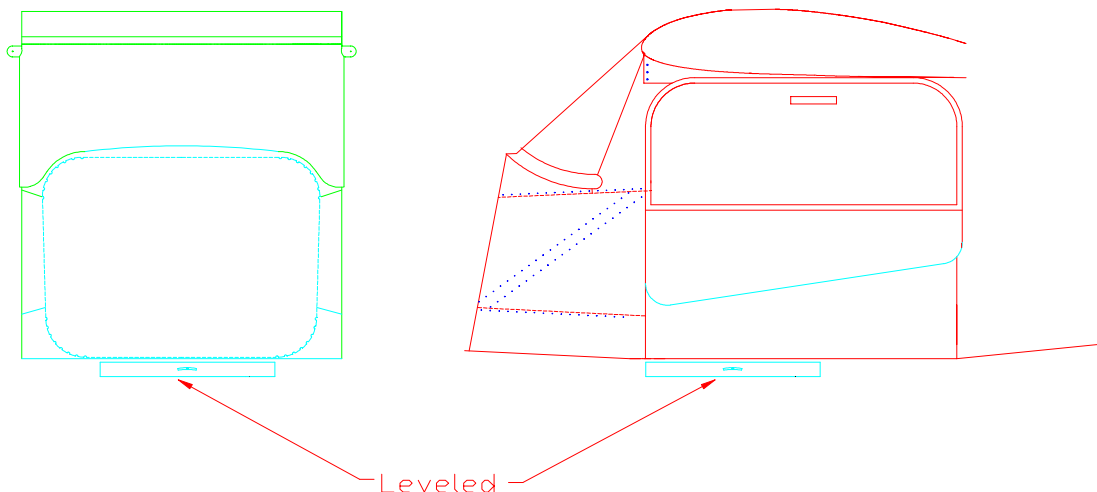

Figure 13.1.1
1) Place the Fuselage on two saw horses. Level the Fuselage longitude and latitude using the cage as a reference point. Figure 13.1.1.